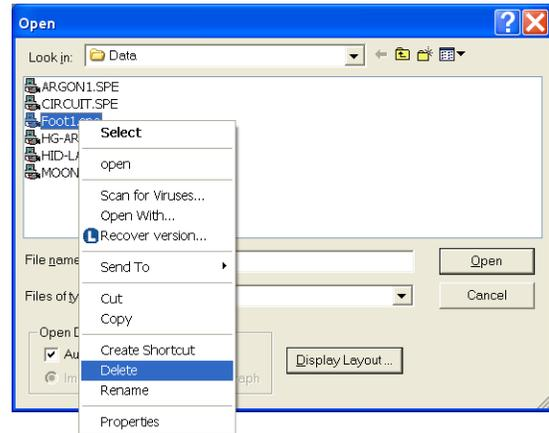

Figure 35. Right-click File Operations menu
2. Position the mouse cursor on the name of the file you want to delete and click the *right* mouse button. This will open the "right-click" **File Operations** menu, as shown in Figure 35.